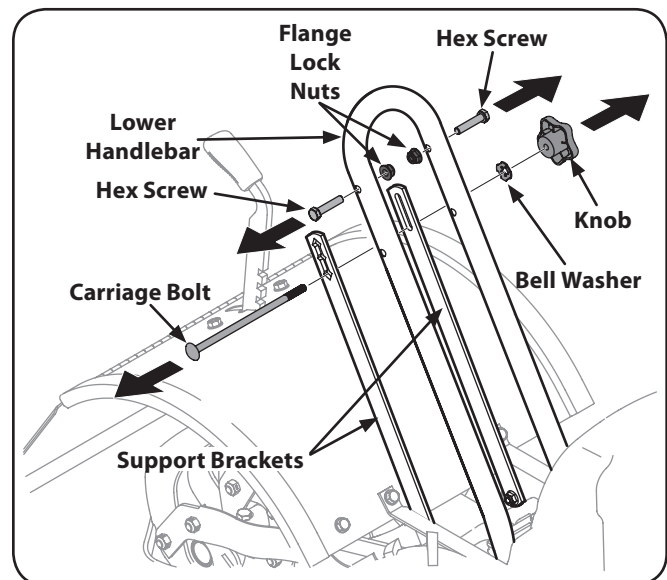

Figure 3-1
1. Remove two hex screws (5/16-18 x 1.50), two flange lock nuts (5/16-18), carriage bolt (5/16-18 x 6.75), bell washer (.326 x .875 x .145) and knob (5/16-18) from the lower handlebar and support brackets. See Fig. 3-1.